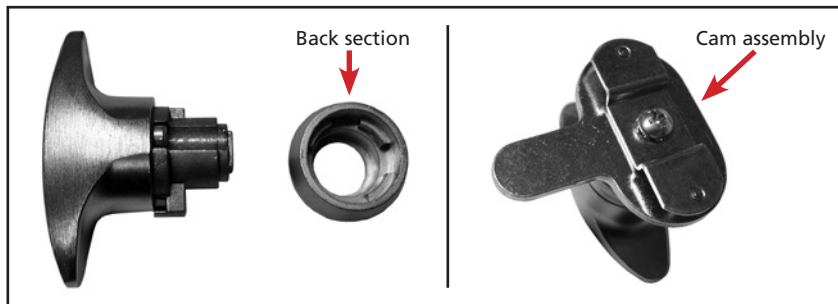

Figure 9
9. Replace the back section and cams, secure with cam screw. The assembly of the back section and cam assembly determine how the T-knob will be handed. For proper handing, refer to instructions for the T-knob lock. **(Fig. 9)**